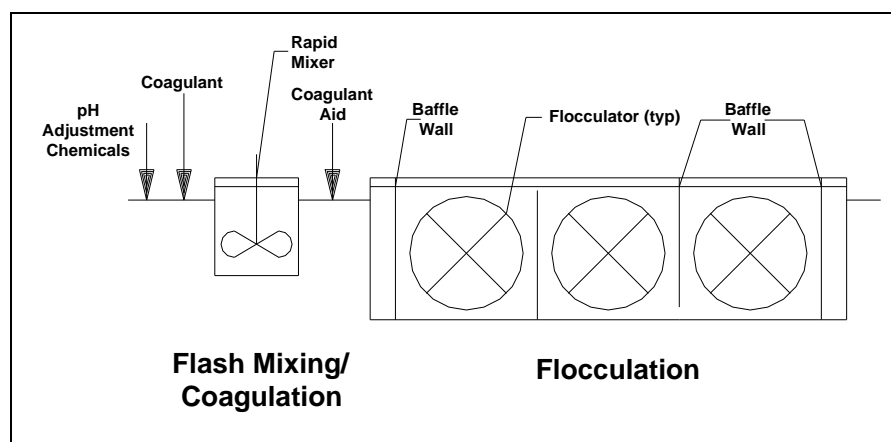

Figure 2.1 - Mixing, Coagulation & Flocculation Schematic
- Figure 2.1 is a schematic of the mixing/coagulation/flocculation process. Note: